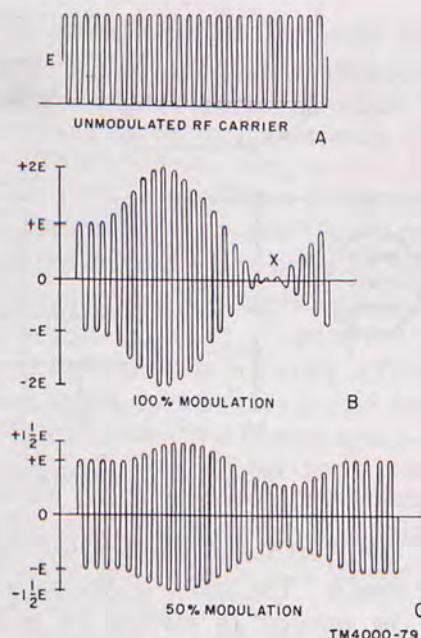
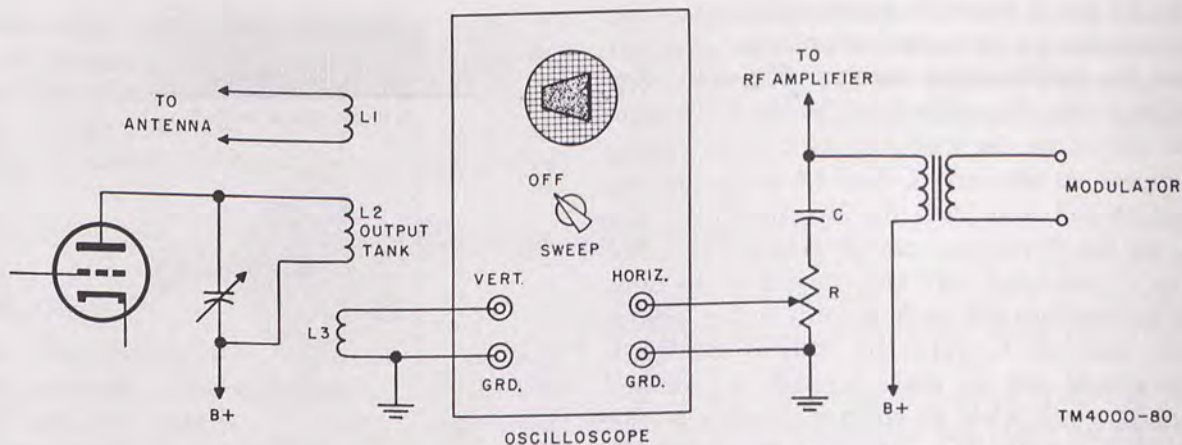

Figure 89. Modulation-envelope patterns.
Figure 90. Oscilloscope connections for checking trapezoidal wave forms.
c. Refer to figure 89. Before the modulating signal is applied, pick-up coil L3 should be oriented with respect to tank coil L2 until a suitable height is obtained. The horizontal sweep voltage should be adjusted until the pattern is wide enough to fill more than half of the oscilloscope screen.
d. Feed an audio sine-wave signal into the modulator. Adjust the modulator gain control until the wave form resembles that in B, figure 89. Note that the peak voltages are twice the unmodulated carrier amplitude.
e. If the modulator output is insufficient for complete modulation, the wave envelope may appear as that in C, figure 89. If the gain control is advanced too far, overmodulation will take
place and the wave form will separate completely as at point X in B, figure 89.
a. When the oscilloscope is connected as shown in figure 90, the wave form shows the modulated carrier amplitude plotted as a function of the modulating voltage, rather than as a function of time, as in figure 89.
the trapezoidal pattern will now be visible. The width of the pattern can be adjusted by varying the resistance of R in figure 90.